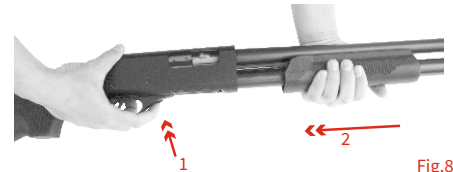

Fig.8
6. Move forend fully backward and forward (pumping) (Fig.8).